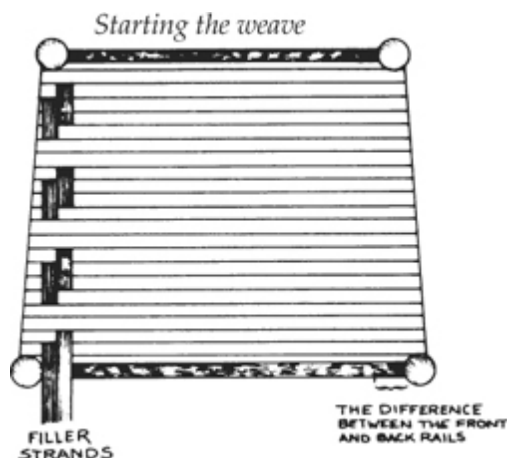

fig. 26
8. Start the weave. If the front rail is longer than the back rail, you will need to square the design with filler strands. Measure the front and back rails. When you have found the difference, divide it in half and mark each half off from each corner post on the front rail. See Figure 26.
Weave over the first warp strand and under three; over three; and under three until you reach the corner. Pull the end through until you have about an equal amount of splint hanging out on each end of the weave. The length of this will depend on the individual chair. The end in the back corner will hang under the chair. Let the ends hang until all of the filler strands are in place. An average chair usually requires two filler strands to square the design to start with and two or three to end with. This will vary depending upon your chair. See Figure 26.
10. Begin the second filler next to the first filler strand on the front rail. Weave over two and under three, over three, under three until you reach the back corner. Equalize the hanging ends as you did in Step 9. Figure 26.
14. If you are working a square or rectangular chair, start the continuous weave right away. Begin at the left front corner. Weave the strip in on the bottom first over one and under three, over three, and under three until you reach the back rail. Stop there. Now weave the other end over one and under three, over three and under three on the top of the seat. When you reach the back rail, go over it and weave over two and under three, over three and under three on the bottom of the chair. Do the same on the top. Now look at Figure 26. Find the third strand in from the left front corner and follow the pattern from there. It should go over three and under three evenly across the chair seat shown.
15. When the back rail is filled, weave the final end in on the bottom of the seat. If you need fillers, weave them in the same manner as you did on the left side. Refer to steps 9 and 10 and to Figure 26.